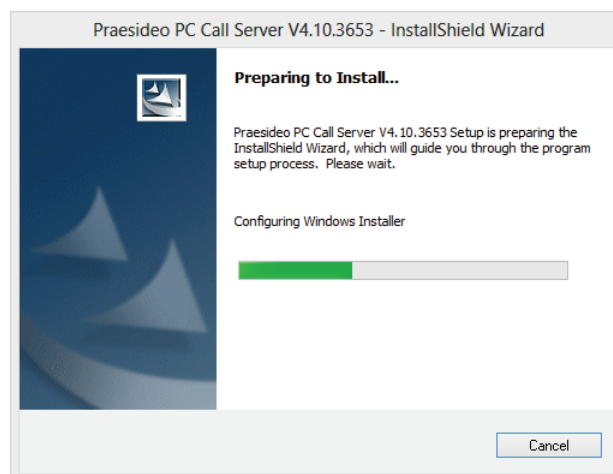

figure 60.1: PC Call Server setup program
- 3 Click the *Open* button to start the setup program of the *PC Call Server*. A screen similar to the one in figure 60.1 appears.
- 3 Click the *Open* button to start the setup program of the *PC Call Server Configuration Client*. A screen similar to the one in figure 60.1 appears, but now for the PC Call Server Configuration Client.